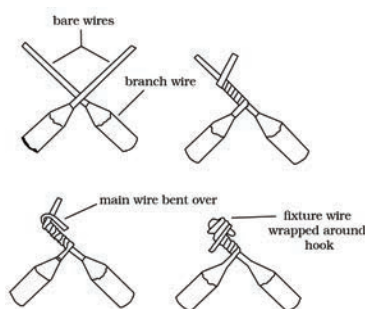

Fig. 5.4 Fixture joint
5. This can be followed by soldering and taping, or simply taping of the joint (Fig. 5.4).